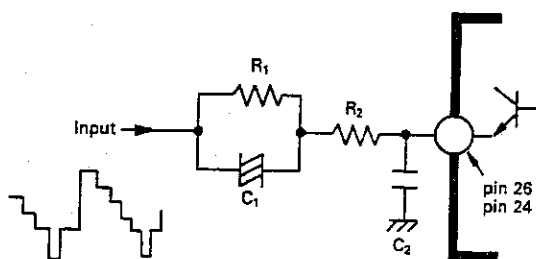

Figure 16.
Pin ②⑤ is for the horizontal sync separation and pin ②④ for the vertical sync separation, and both separations are performed by almost the same circuit shown in Fig. 16.